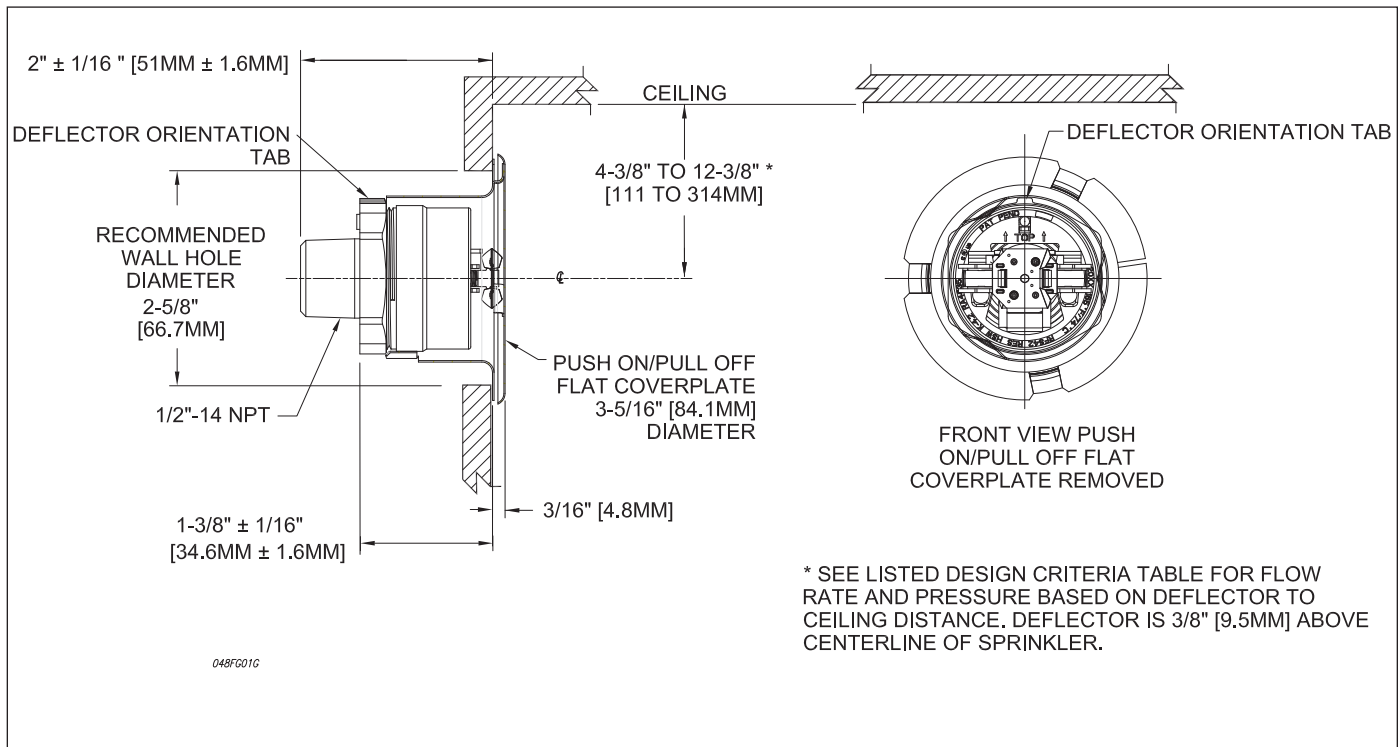

Fig. 1
Do not remove the factory installed plastic protective cap since it is sized to fit inside the G6 wrench. Note that the sprinkler can only mate when the sprinkler's deflector orientation tab (Fig. 1) is aligned with wrench's key-way. The G6 wrench is provided with bubble level pad and TOP marking, to allow the proper orientation of the horizontal sidewall deflector. Final leveling can be done after leak proof joint is obtained with a minimum to maximum torque of 8 to 18 ft-lbs (11 to 24 N·m). Leave the protective cap on to protect the sprinkler while the wall is plastered, wallpapered or painted. The protective cap must be removed and the listed cover plate installed prior to the sprinkler system being placed in service. A 2⁵/₈" (67 mm) diameter hole must be cut in the wall for the sprinkler assembly to extend through.
4. The sprinkler fitting shall be installed so that the rear of the sprinkler is 2" +/- 1/16" from the finished surface of the wall. Verify wall assembly dimensions prior to installation to ensure that the cover plate attaches to the sprinkler and seats against the finished wall surface (Fig. 1).